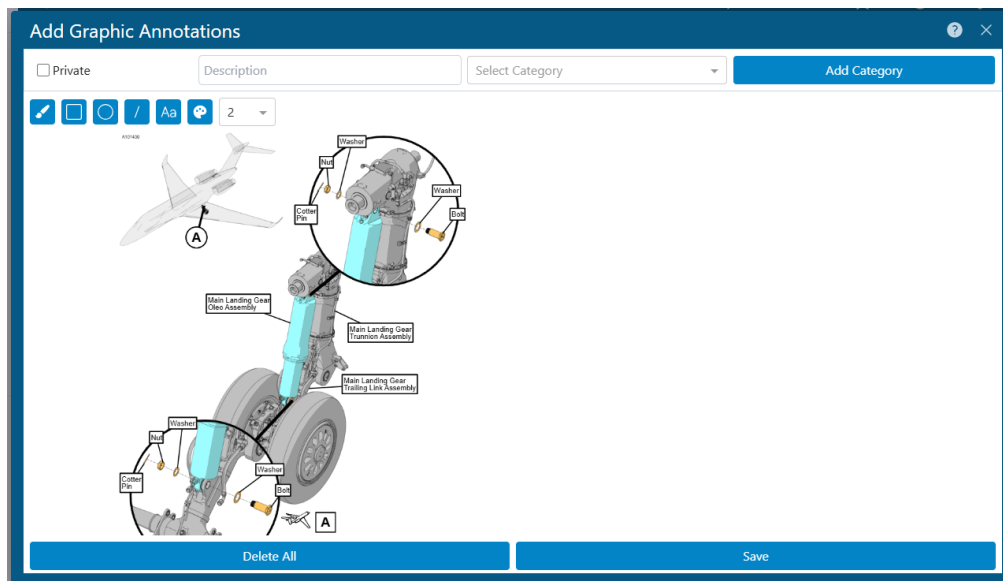

Figure 18 - Graphic Panel Annotation Window
2. Select the  annotation icon in the Graphic Panel Tools to open the graphics annotation window (Refer to Figure 18).